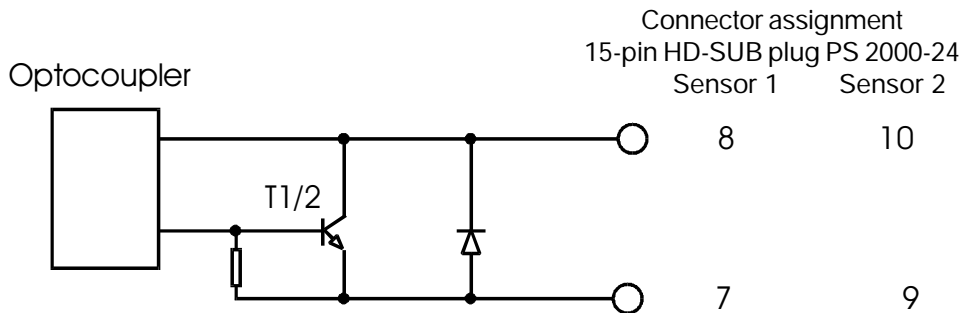

Fig. 3.1: Error output at the power supply unit
- **Standard version with error output (see fig. 3.1)**